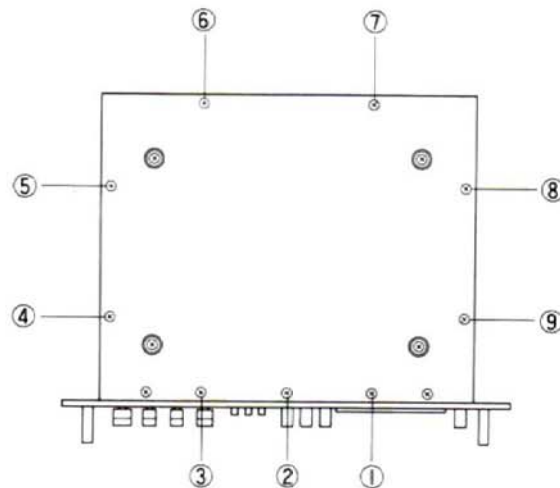

Fig. 1 (Rear View)
The lower cover can be removed by taking out screws (tapping 3 x 8) from ① ~ ⑨ shown in Fig. 1.